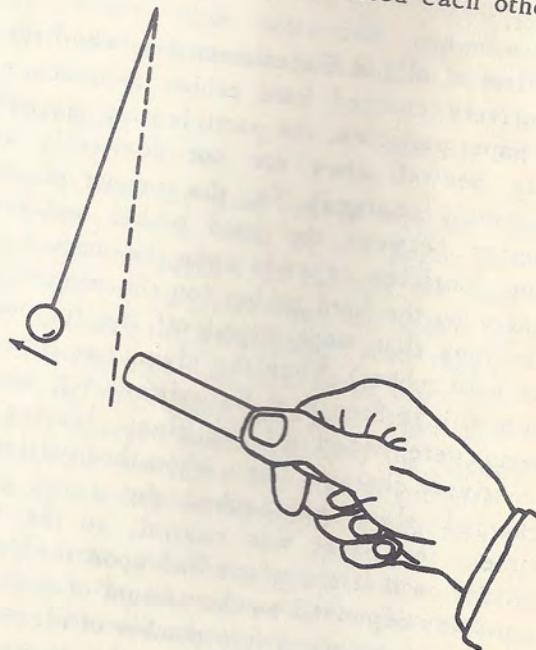

Fig. 4-6
Step 2. Charge the other piece of hard rubber and approach the suspended rubber with it. The suspended rubber should turn away, repelled by a like charge. See Fig. 4-6.